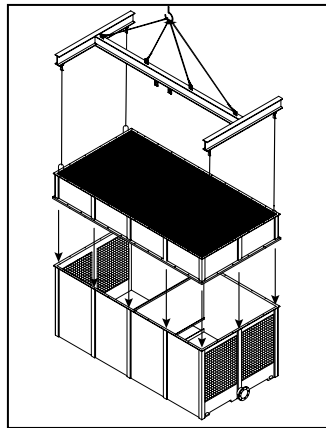

Figure A-110: Lower body section assembly for a modular tower (RTGMTC-G & RTGMTC-H)
- K. **Only for RTGMTC-G & RTGMTC-H models:** Only for RTGMTC-G & RTGMTC-H models: Assemble Lower Body section # "M1A" on top of basin section # "M1A", make sure that the bolt holes on Lower Body section # "M1A" are aligned with the ones on basin section # "MA1", then bolt down and secure the horizontal flanges with the stainless steel nut and bolt sets supplied by REYMSA (see Figure A-110).